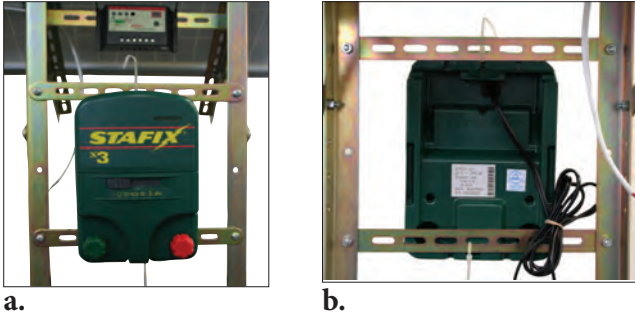

Fig. 2
Step 4: Attach the panel brackets. Use the first and third bolt holes to attach the brackets to the uprights and adjustable angle brackets (Fig. 2). The middle hole is used for the controller mounting bracket.